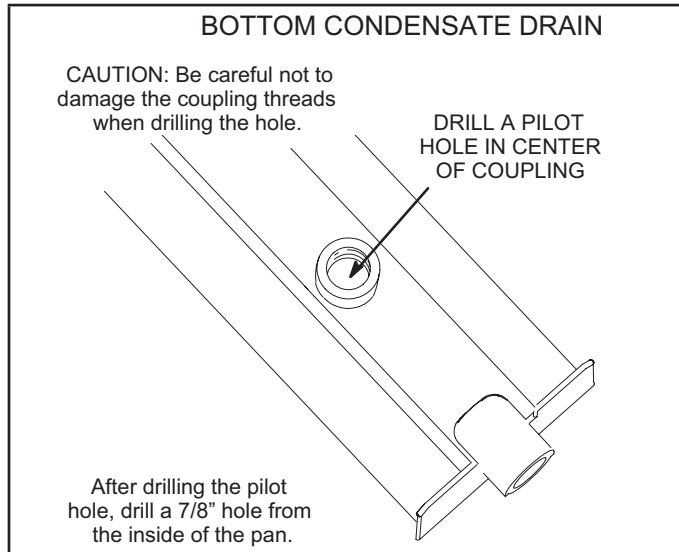

FIGURE 9
- 6 - Turn the drain pan upside down and drill a pilot hole through the bottom of the drain pan in the center of the coupling. See FIGURE 9.